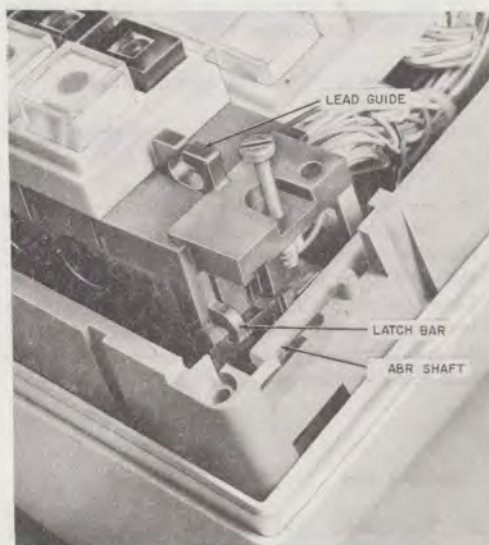

Fig. 58—Line Key Installation
- (a) Push the latch bar all the way into the upper end of the key so it will engage the ABR shaft properly (Fig. 58).
(a) Place the module in its proper position on the chassis, being careful that its latch bar engages the ABR shaft in the same way as the line key latch bar [paragraph 5.36(a) and (b) and Fig. 58]. Make sure that the electret opening on the microphone is completely visible through the lower housing port. Tighten the four captive screws.
(b) Dress the 1A module leads through the guide on the line key (Fig. 58) and plug the connector into the SPEAKERPHONE position of the interconnect field.
- (b) Dress the HFAI module leads through the guide on the line key (Fig. 58) and plug the connector into the HFAI/PWR position on the interconnect field.